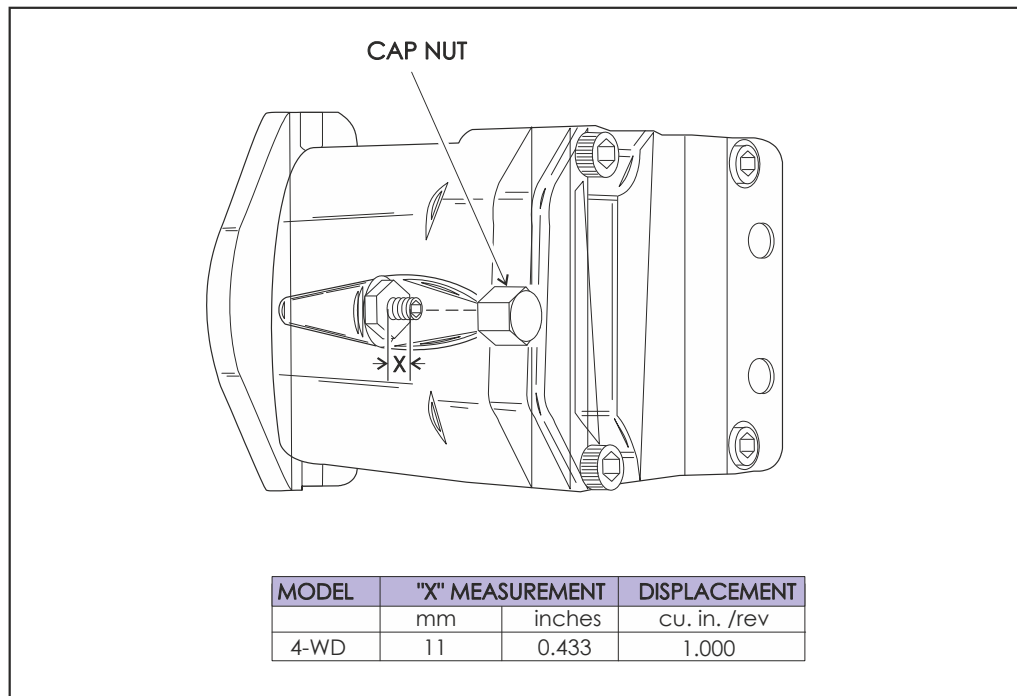

Figure 3-34. Drive Motor Adjustment
3. Measure from top of jam nut to the end of adjustment screw. Refer to Figure 3-34., Drive Motor Adjustment.